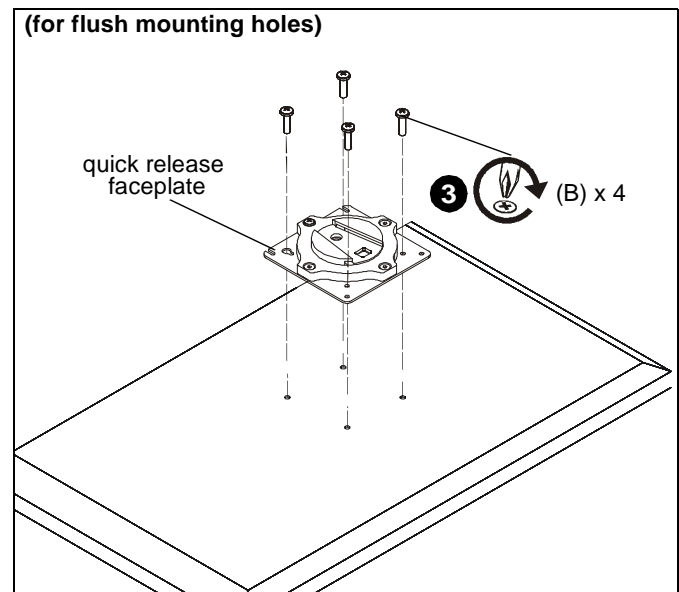

Figure 3
- Using Phillips screwdriver, carefully install four M4x10mm screws (B) through corresponding holes on faceplate and into the mounting holes on the display. (See Figure 3)